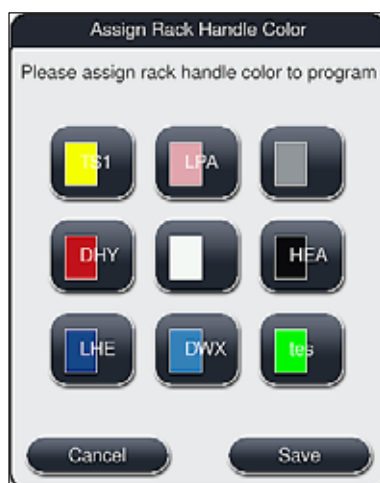

Fig. 41
- Pressing the "Color" button (→ "Fig. 40-10") displays a selection field (→ "Fig. 41") that allows assignment of the rack handle color to the selected program.
All available colors are displayed in (→ "Fig. 41"). If an abbreviation is entered in the color field, this color has already been assigned to a program.